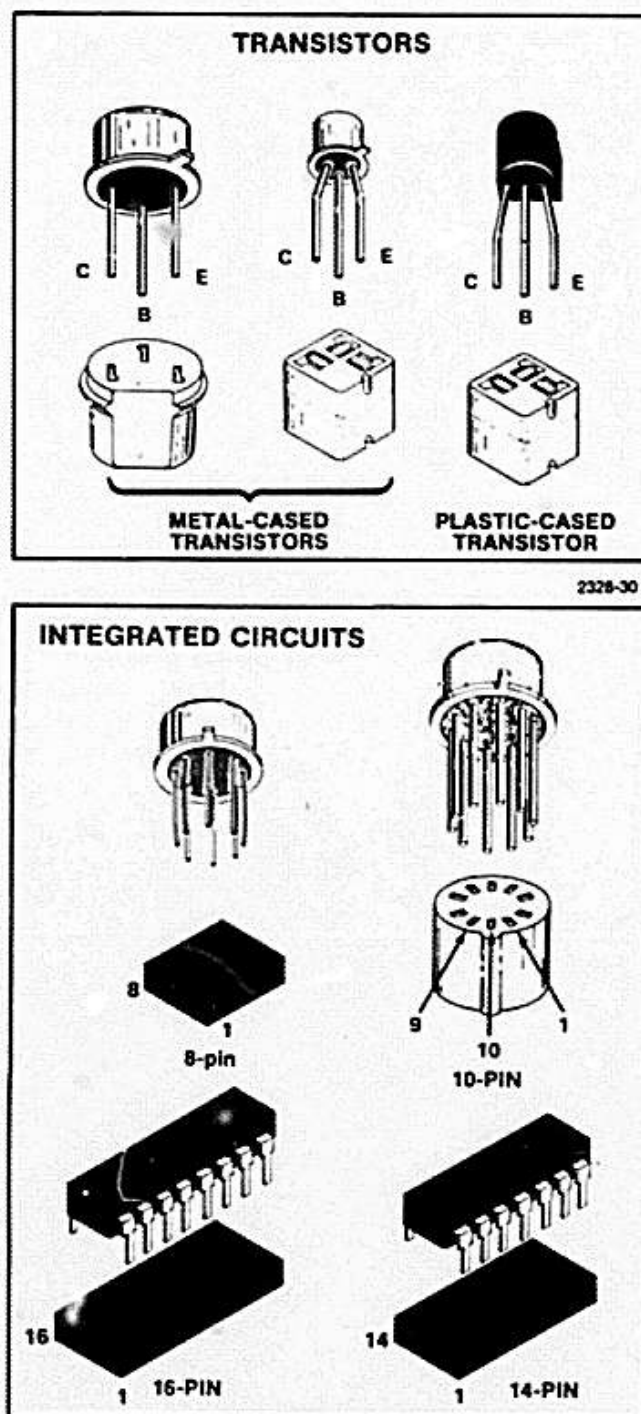

Fig. 6-2. Semiconductor basing illustrations.
Figure 6-2 illustrates the lead configurations for the socket-mounted transistors and integrated circuits (IC) used on the circuit board.